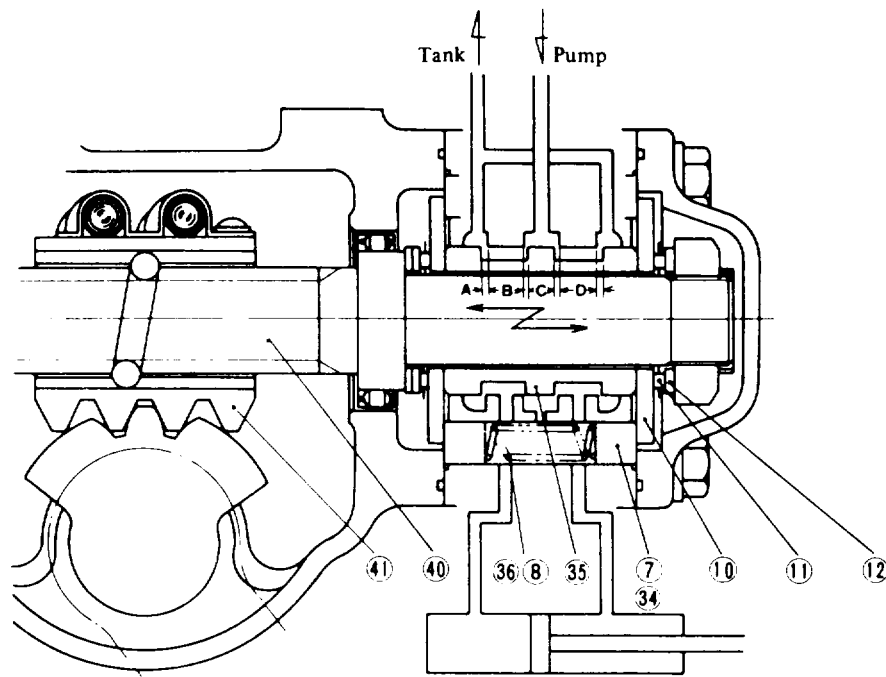

Fig. 4-422. Control Valve In Neutral
- (b) When the steer handwheel is turned left: When the steer handwheel is turned left, the pitman arm does not move if the steering force is small, due to resistance of the truck body applied on the pitman arm, (ball nut (41) is also locked,) so that worm shaft (40) rotates counterclockwise moving in such a direction that the steering handwheel sinks (the centering spring is contracted.) With the movement of the worm shaft, the steering control valve is actuated to allow oil passages B and D to open and A and C to close so the oil flow route is determined. The pressure oil from the pump, thus, flows through oil passage B of the control valve to the power steering cylinder. Meanwhile, the oil discharged from the power cylinder passes through oil passage D of the control valve, returning to the tank. When the steer handwheel stops to turn, the worm shaft is pushed back by the centering spring, placing the spool in the neutral position so the control valve is put in "Straight Travel" position as shown in Fig. 4-422